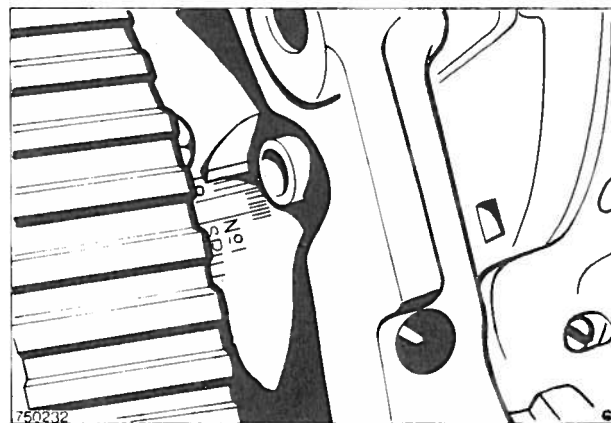

Fig. 39 Timing the injection pump
26. Re-fit the injection pump gear and finger tighten the retaining bolts. Turn the injection pump gear until the pump pointer coincides with the 12° B T D C line (Fig. 39).